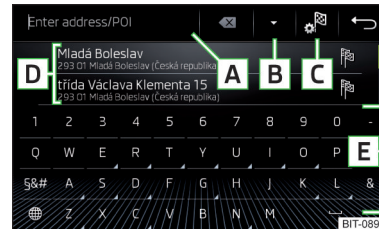
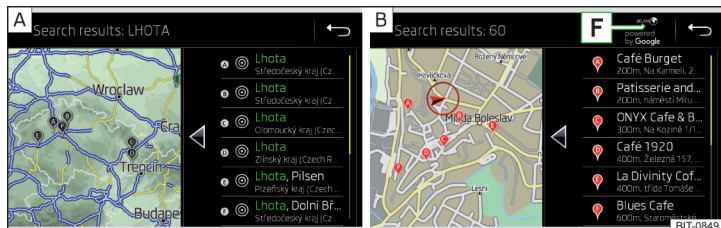

Fig. 210
Fig. 211 List of destinations visited: in the navigation data / online
Function surfaces » Fig. 210 and » Fig. 211
A list of the destinations found is displayed in area **D** » Fig. 210.
- › **or:** Tap the **B** » Fig. 210 function surface.
- Destinations found in the navigation data » Fig. 211 - **A**.
- Destinations found online » Fig. 211 - **B**.